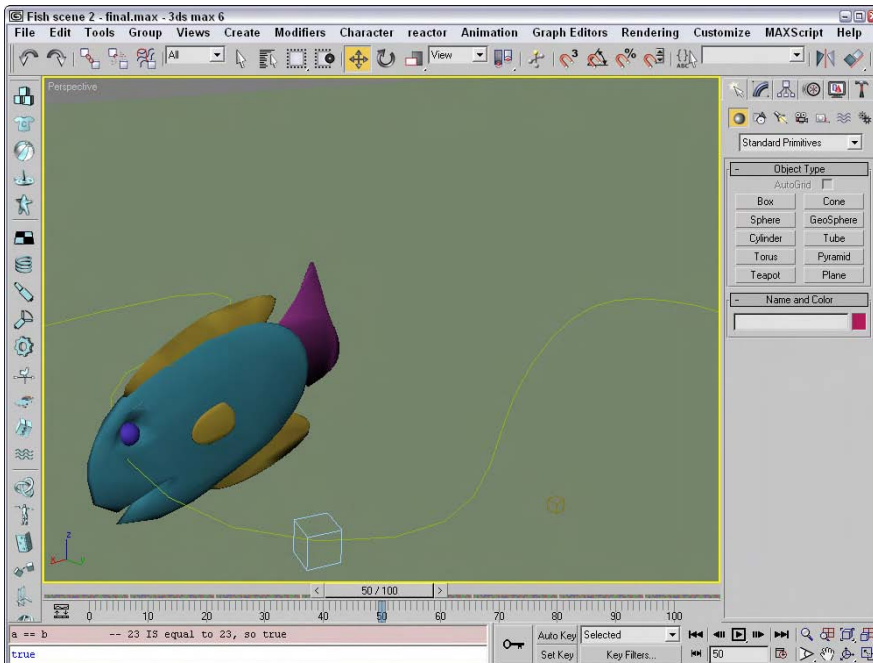

Figure 48-12: A tail-flapping fish that faces the right direction as it follows the path
2. Save your script (File ⇨ Save), and then press Ctrl+E to evaluate the script again. This script is saved in the Chap 48 directory as FishPath2.ms. Make the Camera01 viewport active, and click Play Animation. Figure 48-12 shows another frame of the animation. As you can see, the fish is heading in the right direction this time, and the tail is flapping wildly.